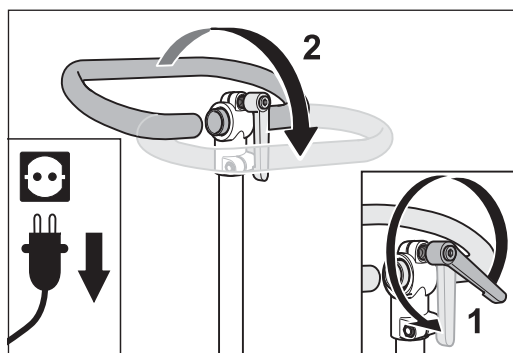

Fig. 15 Undoing the clamping lever on the extension (1) and tilting the handlebar over into the desired position (2).
- 5 To adjust the handlebar, undo the clamping lever at the upper end of the extension (fig. 15, 1).
- 6 Tilt the handlebar over into the desired position (fig. 15, 2) and then tighten the clamping lever firmly again.